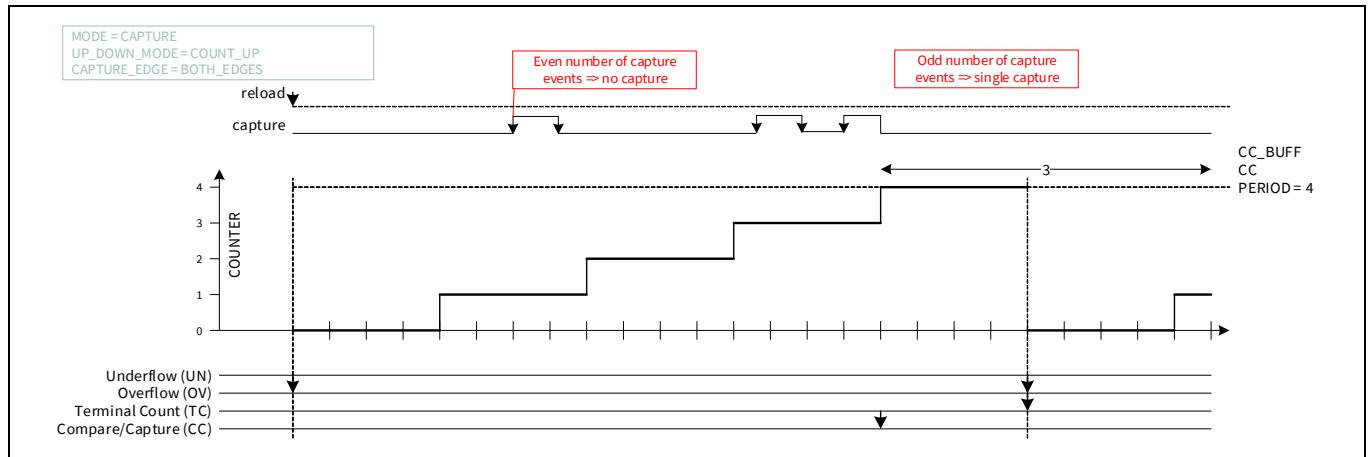

Figure 28-4. Multiple both edge capture
- In the rising/falling edge mode, an even number of events are not detected and an odd number of events are reduced to a single event. This is because the rising/falling edge mode is typically used for capture events to determine the width of a pulse. The current functionality will ensure that the alternating pattern of rising and falling is maintained (see Figure 28-4).